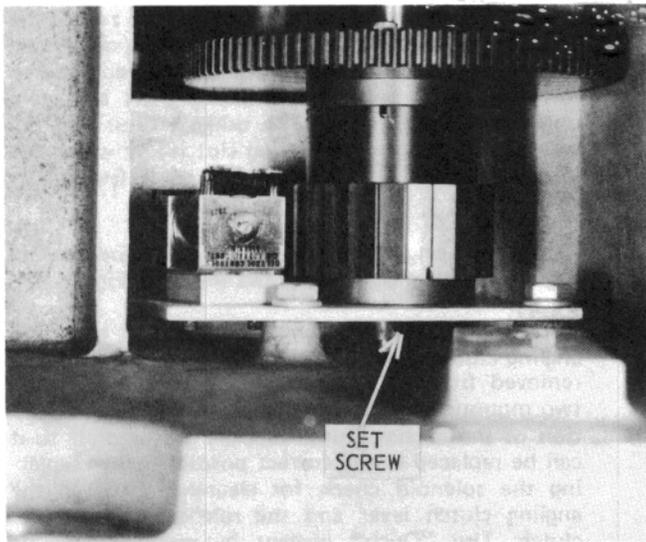

Figure 81 – Set Screw
- 6.1.20 Tighten set screw (see Figure 81). Tighten mounting screws.